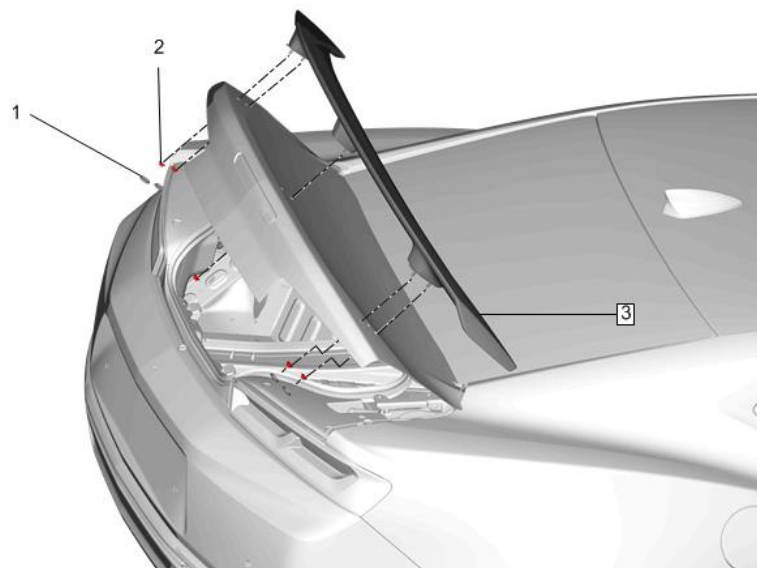

Figure 1: Rear End Spoiler Replacement.
4. Remove Rear Compartment Lid Inner Plug (Figure 1 callout 1, 4x).
5. Remove Rear End Spoiler Nut (Figure 1 callout 2, 6x).